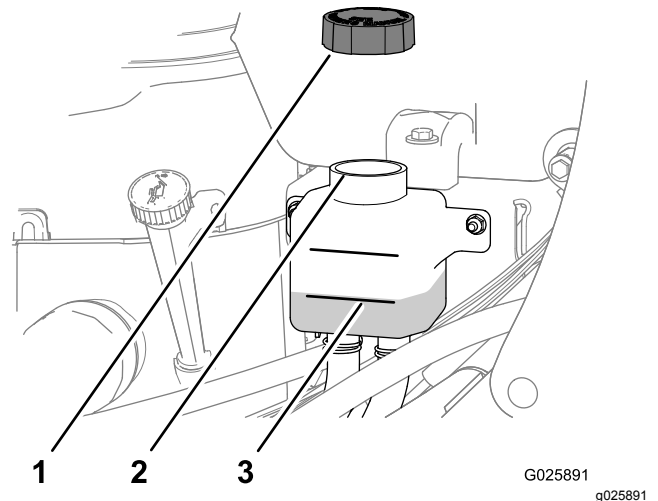

Figure 58
3. Remove the cap from the expansion tank and check the hydraulic-fluid level in the tank (Figure 58).
4. If necessary, add the specified transmission fluid until the fluid level is at the Full Cold line of the expansion tank (Figure 58).